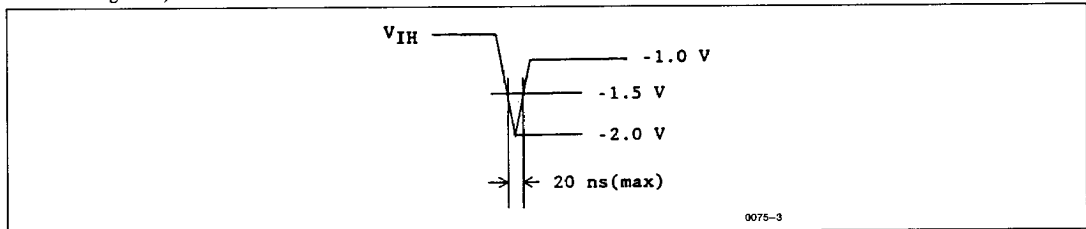

Figure 1. Undershoot of input voltage
2. The device will withstand undershoots to the -2V level with a maximum pulse width of 20 ns at the -1.5V level. (See figure 1.)